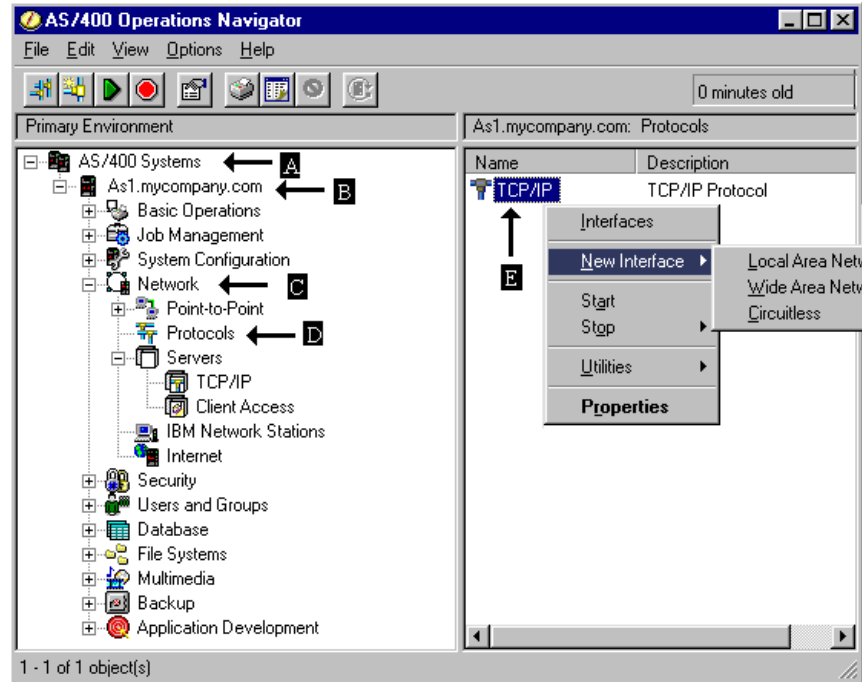
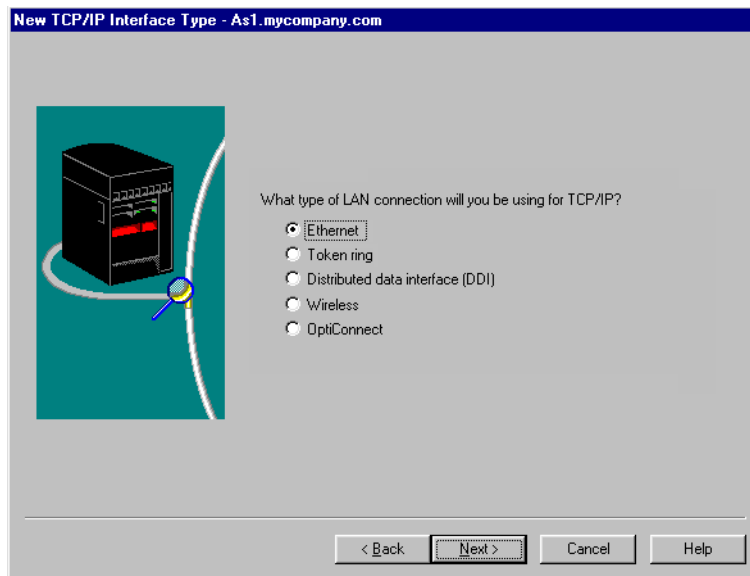

Figure 447. Operations Navigator protocols
Figure 448. Select Interface Type
1. Start Operations Navigator by clicking **Start->Programs->IBM AS400 Client Access->AS/400 Operations Navigator**. The AS/400 Operations Navigator window appears (Figure 447).
2. Double-click the AS/400 Systems icon (A). It gives you a list of all the AS/400 systems that you can access.
3. Double-click the AS/400 system (AS1) (B) that you want to configure.
4. Double-click **Networks** (C).
5. Double-click **Protocols** (D).
6. Right-click **TCP/IP** (E) in the right panel to see the context menu (Figure 447).
2. Select **New Interface** from the context menu (Figure 447). Depending on your version and release, you may see the next selection menu Local Area Network, Wide Area Network, or Circuitless. Click **Local Area Network**. You should now see the first window of the TCP/IP wizard interface. Click **Next**. The New TCP/IP Interface Type window appears (Figure 448 on page 794).